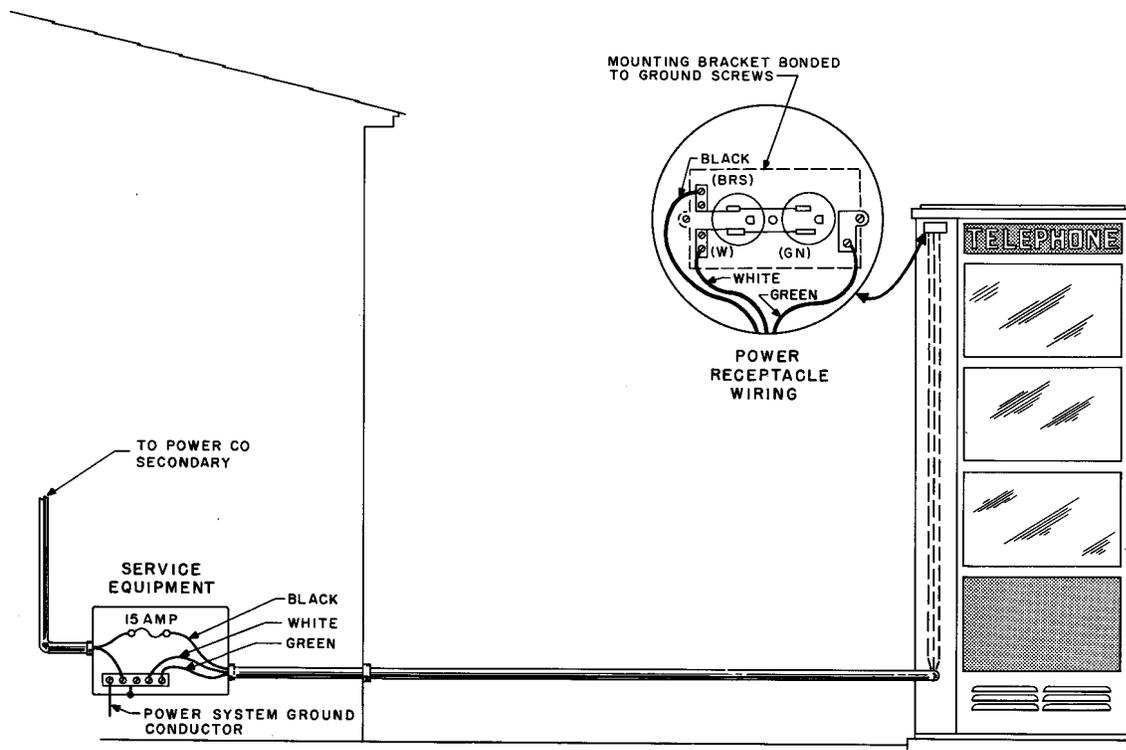

Fig. 3—3-wire Extension of Branch Circuit
9.03 Fig. 3 shows the booth grounded by means of a separate third wire connected directly to power system ground. If nonmetallic sheath cable is used for extension, the bare copper wire is employed as booth grounding conductor.